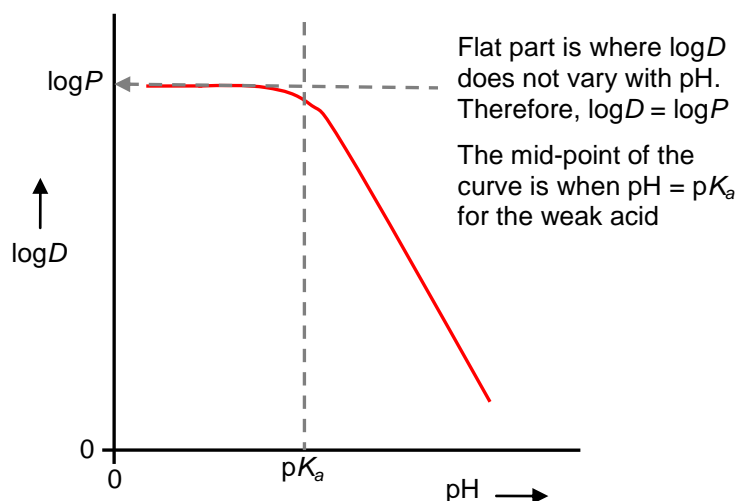

Figure 2 Graph of $\log D$ against pH for a weak acid.
For solutes that do not ionise, partition coefficients can be determined by direct measurement. However, if the solute does ionise, measurements of D at different pHs may be made to calculate P (figure 2).
3. Plot a graph of $\log D$ against pH (figure 2).